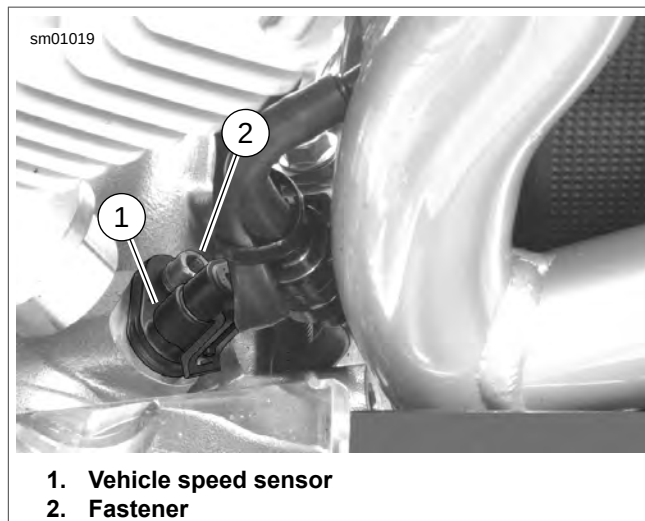

Figure 7-40. Vehicle Speed Sensor (typical)
2. See Figure 7-40. Disconnect VSS wiring harness cable connector [65B] from the VSS.
1. See Figure 7-40. Install **new** VSS with O-ring and fastener (2). Tighten to 8.2-10.7 Nm (73-95 **in-lbs**).